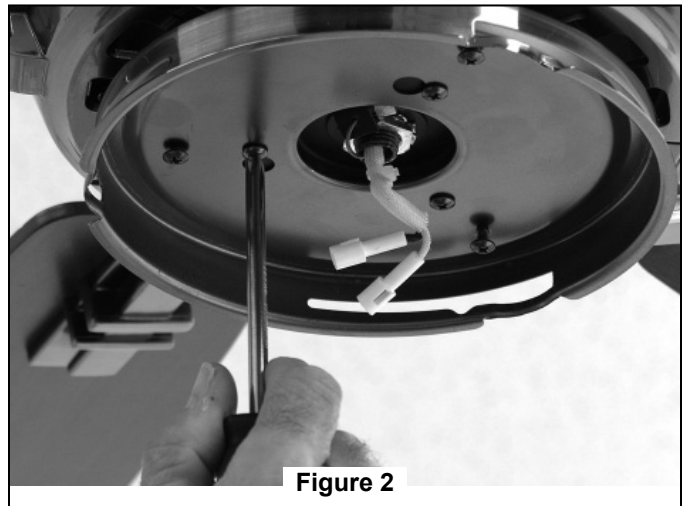

Figure 2
5. Route wires through Motor Coupling Cover (Fig 2) or the Decorative Sleeve (Fig 3) and through opening in Canopy. Position Canopy on fan shown with open side facing up. (Figure 4)
7. While pulling up on the hanger ball, securely tighten the two setscrews with nuts in the downrod support. (Figure 2 & 3)
8. Slide the Motor Coupling Cover (Fig 2) or the Decorative Sleeve (Fig 3) down until it touches the top of the Housing.
1. Securely attach the hanger bracket to the outlet box using the outlet box screws and washers supplied with the outlet box (Figure 2).
NOTE: Outlet box screws pass through slotted holes of the hanger bracket (Figure 2).
3. Carefully lift the fan and seat the downrod/hanger ball assembly on the hanger bracket that was just attached to the outlet box (Figure 3). Be sure the groove in the ball is lined up with tab on the hanger bracket (Figure 2).
- Slide Receiver Unit into the Hanger Bracket (Fig 2).
4. With a Phillips screwdriver, tighten washer-head screws with fiber washers. Do not over-tighten. (Figure 2)
2. Securely attach the Adapter Plate to the Support bracket and tightening three screws. (Figure 2)